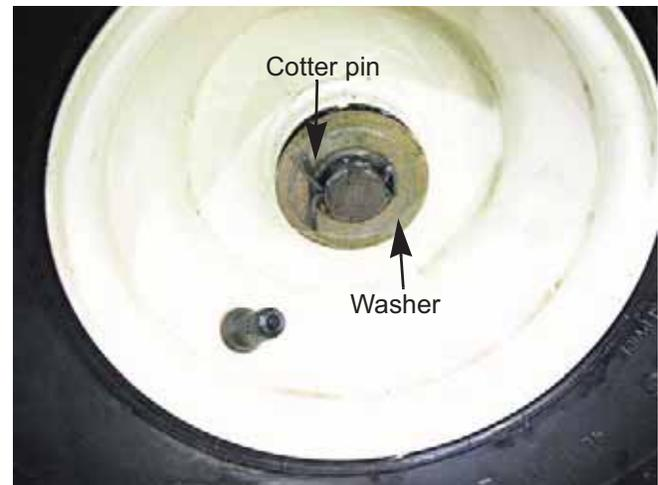

Figure 6B.76
4. Remove the washer. See Figure 6B.76.